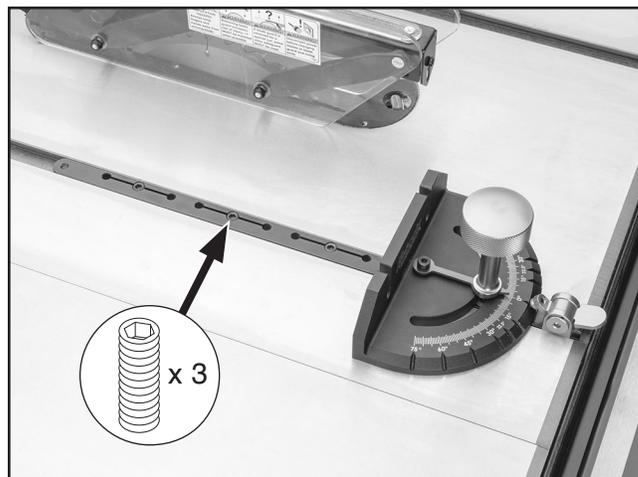

Figure 5. Miter bar in table miter slot.
1. Place miter bar in table miter slot to check how miter bar moves through slot (see **Figure 5**).
2. Adjust (3) set screws shown in **Figure 5** until miter bar will move snugly and smoothly through miter slot.